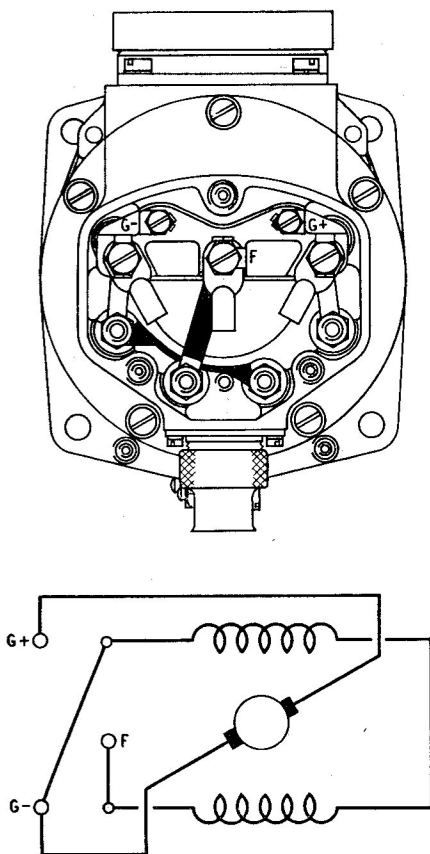

Fig. 3. Internal wiring diagram and terminal arrangement
4. The brushgear incorporates two diametrically opposed brushes, connected as shown in the internal wiring diagram (fig. 3). Access to the brushgear is obtained by removing the commutator end cover band.
7. Unless otherwise stated, the terminal arrangement is as shown in fig. 3. External connections are made to terminals F, G+ and G- by means of suitable 3-core screened cable.
2. The internal connections differ from those shown in fig. 3 of the main chapter, in that the field is connected to terminals F and F1, and terminal F is linked to G—.